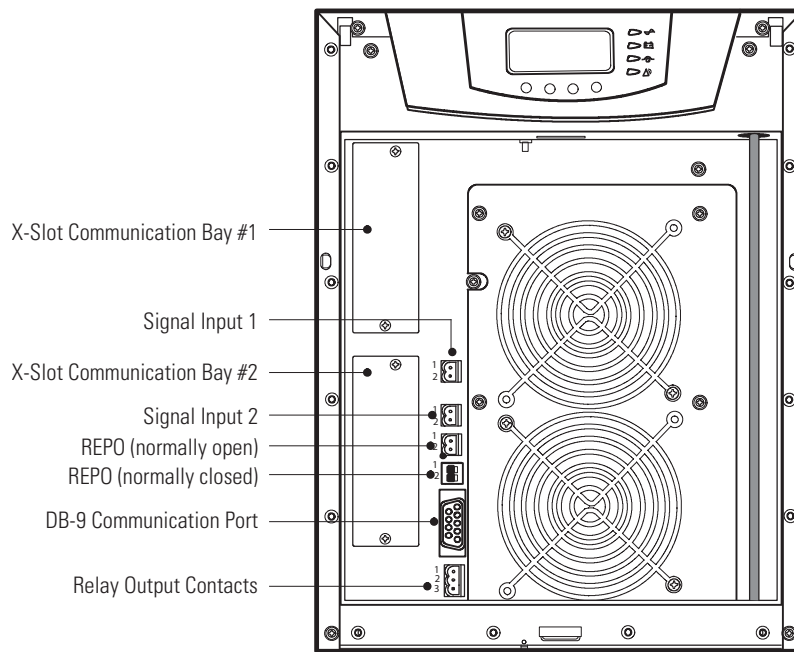
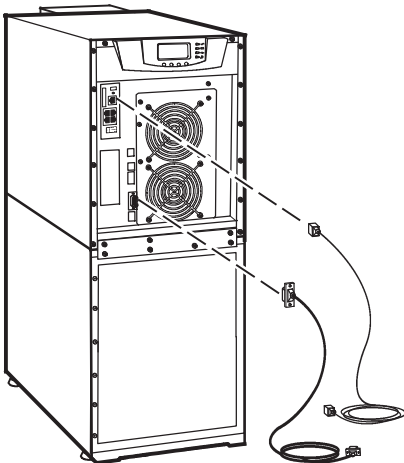
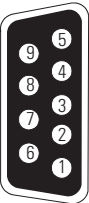

Figure 46. Communication Options and Control Terminals
Figure 48. Installing Communication Cables
Figure 51. Communication Port
Figure 46 shows the location of the communication options and control terminals on the UPS.
2. Install the appropriate X-Slot card and/or necessary cable(s) into the top cabinet (see Figure 46 and Figure 48).
The cable pins are identified in Figure 51 and the pin functions are described in Table 4. See Figure 46 on page 49 for the communication port location.
See Figure 46 on page 49 for the location of the two X-Slot communication bays.
5. Install the IRC into an open X-Slot communication bay (see Figure 48 on page 50).
4. Install the IRC into an open X-Slot communication bay (see Figure 48 page 50).